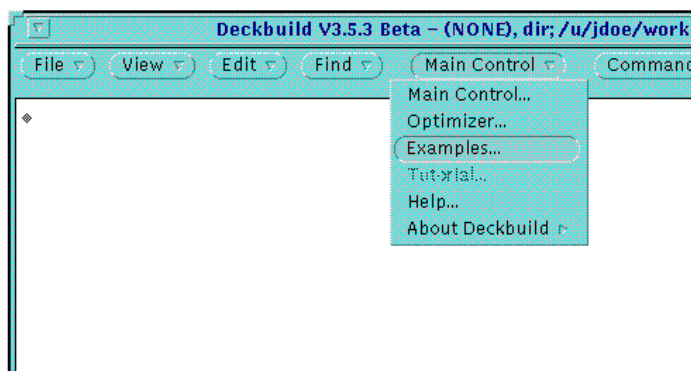

Figure 2-2: Main Control Menu
1. Move the cursor over the **Main Control** button, and click and hold the right hand mouse button. The Main Control menu will appear. One of the options on this menu is labeled **Examples...** as shown in Figure 2-2.